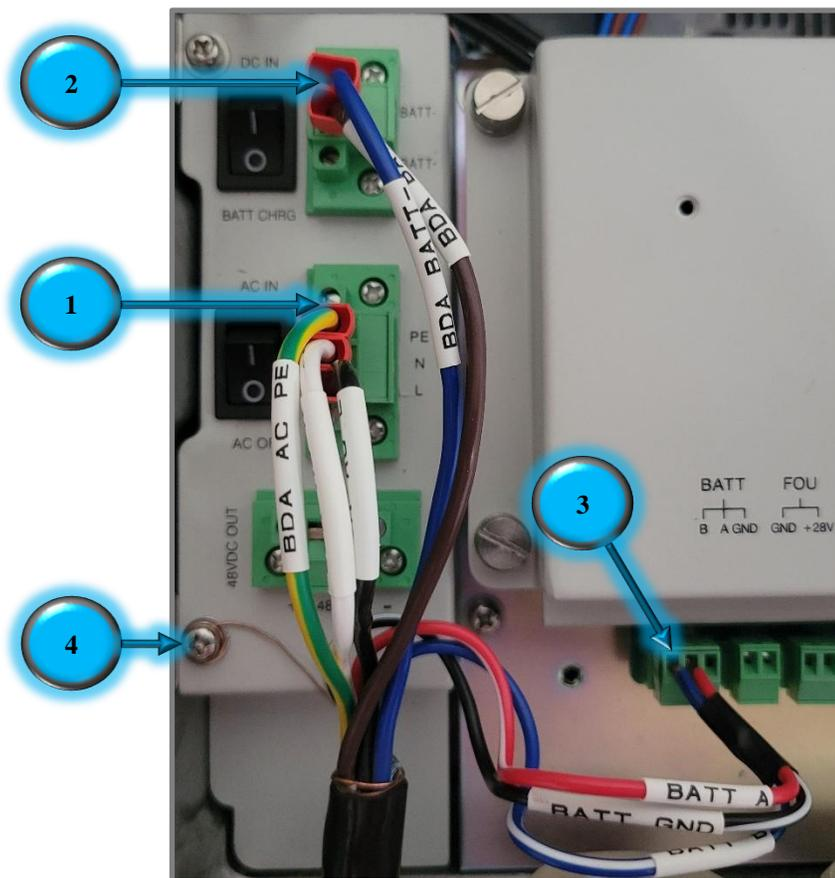

Figure 43: V3 BDA/MU/RU Hybrid Cable Wire Connections
- Connect the sleeved wires to the Phoenix connectors inside the BDA/MU/RU as shown in Figure 43 below. The Phoenix connectors are removable for ease of installation.
- a. Connect (AC) Black Wire to L
- b. Connect (AC) White Wire to N
- c. Connect (AC) Green/Yellow Wire to PE (GND)
- a. Connect (DC) Brown Wire to BATT+
- b. Connect (DC) Blue Wire to BATT-